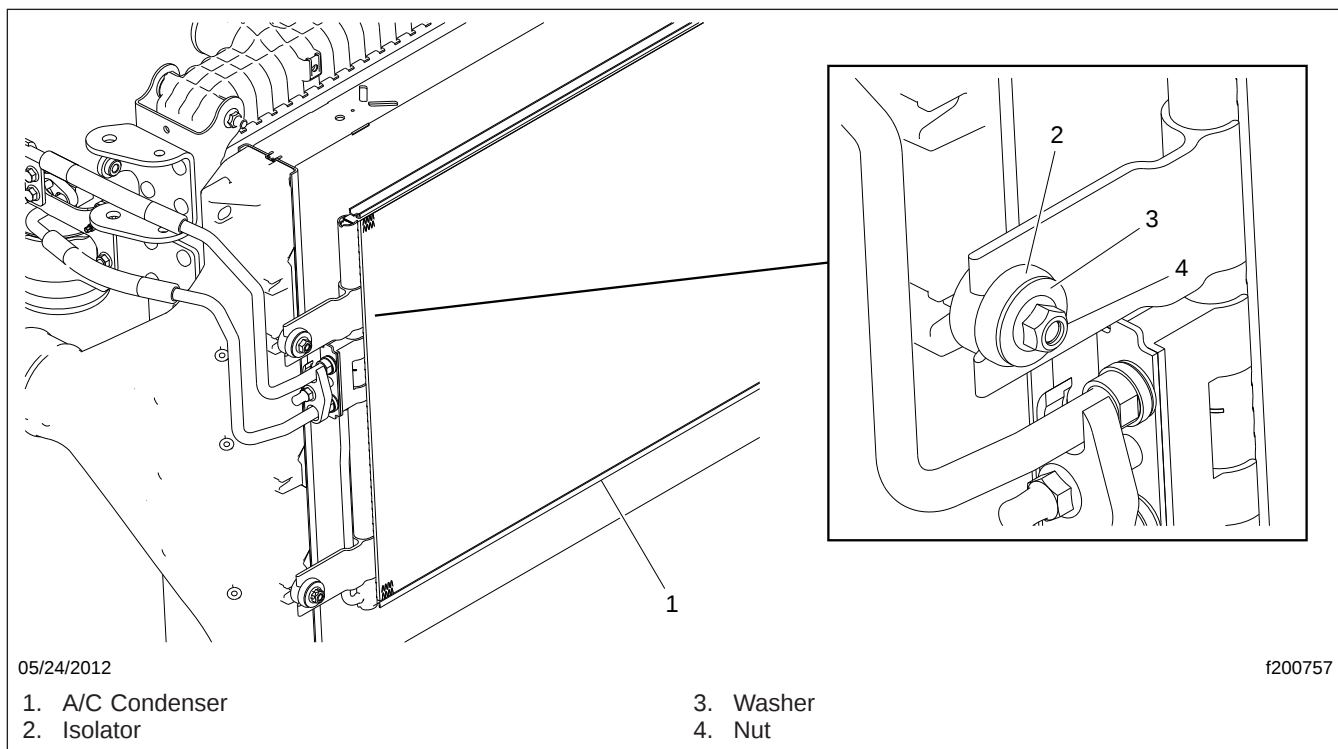

Fig. 11, A/C Condenser Installation
10.3 Unbolt the A/C condenser from the CAC. See Fig. 11.
37.1 Move the condenser into position and secure it temporarily. See Fig. 11.